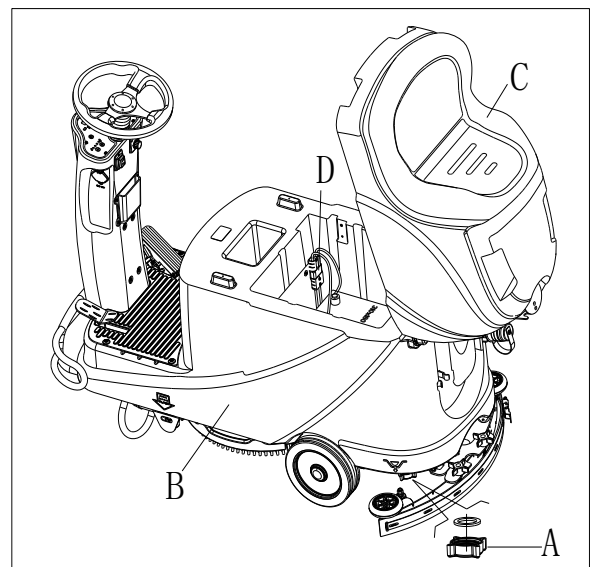

Figure 15
7. Empty the solution tank through the outlet cover (A, Figure 15). And then, rinse the tank with clean water.
2. Empty the tanks (B and C, Figure 15) as shown in previous paragraph.
2. Disconnect the battery connector (D, Figure 15).